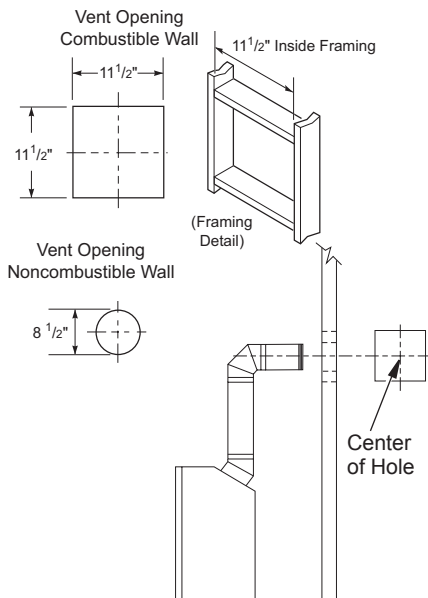
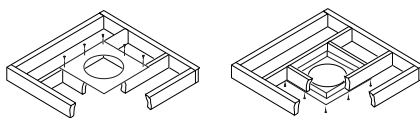

Figure 9 - Vent Opening Requirements
Figure 20 - Installing Firestop
5. Carefully determine the location where the vent pipe assembly will penetrate the outside wall. The center of the hole should line up with the center-line of the horizontal vent pipe. Mark the wall for a $11\frac{1}{2}" \times 11\frac{1}{2}"$ square hole. Cut and frame the square hole in the exterior wall where the vent will be terminated. If the wall being penetrated is constructed of noncombustible material, such as masonry block or concrete, a $8\frac{1}{2}"$ hole with zero clearance is acceptable (see Figure 9).
1. Cut a 11 1/2" square hole in the ceiling using the locating hole as a center point. The opening should be framed to 11 1/2" x 11 1/2" inside dimensions, as shown in Figure 9 on page 8 using framing lumber the same size as the ceiling joists. If the area above the ceiling is an insulated ceiling or an attic, nail firestop from the top side. This prevents loose insulation from falling into the required clearance space. If the area above the ceiling is a living space, install firestop below the framed hole. The firestop should be installed with no less than three nails per side (see Figure 20).
3. Cut a hole in the roof using the locating hole as a center point. (Cover any exposed open vent pipes before cutting hole in roof.) The 11 1/2" x 11 1/2" hole must be measured on the horizontal; actual length may be larger depending on the pitch of the roof. There must be a 1" clearance from the vent pipe to combustible materials. Frame the opening as shown in Figure 9, page 9.